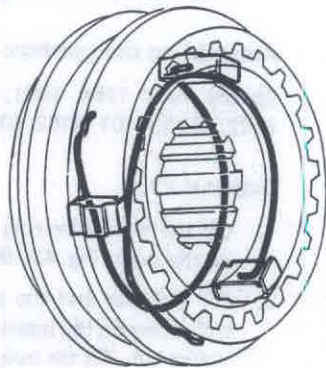

Fig. 43-84. Placing spring
5. Assemble the synchro unit for 1st-2nd gears. The springs for the interlock units are placed as shown in Fig. 43-84, starting off with different interlock units.